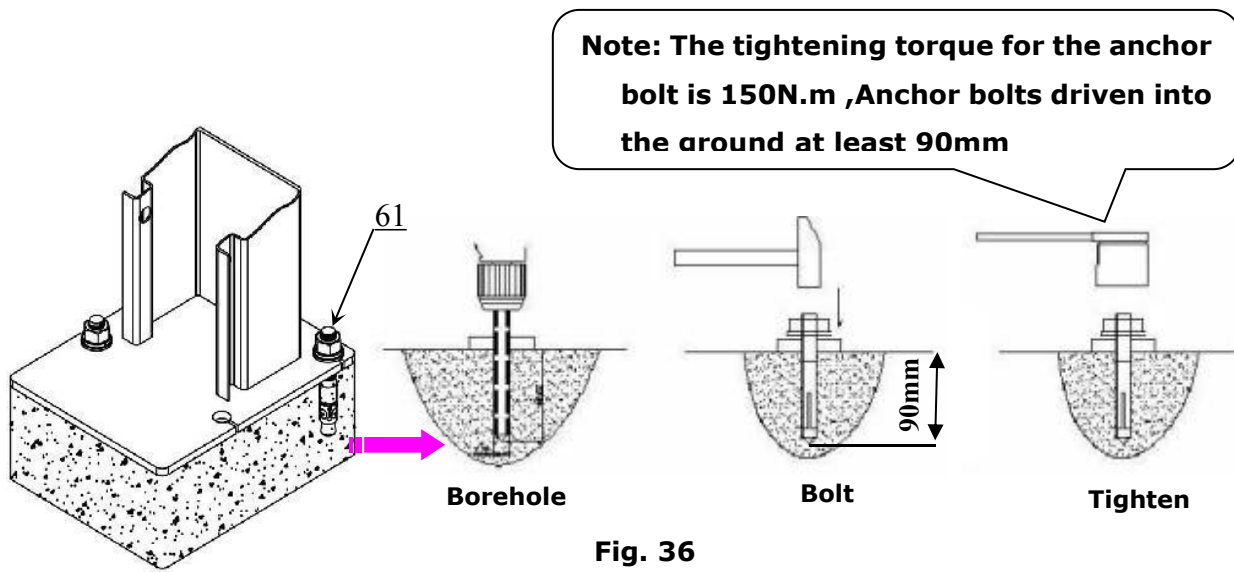

Fig. 36
1.2 Using the prescribed rotary hammer drill, and drill all the anchor holes and install the anchor bolts. Do not tighten the anchor bolts (See Fig. 36).